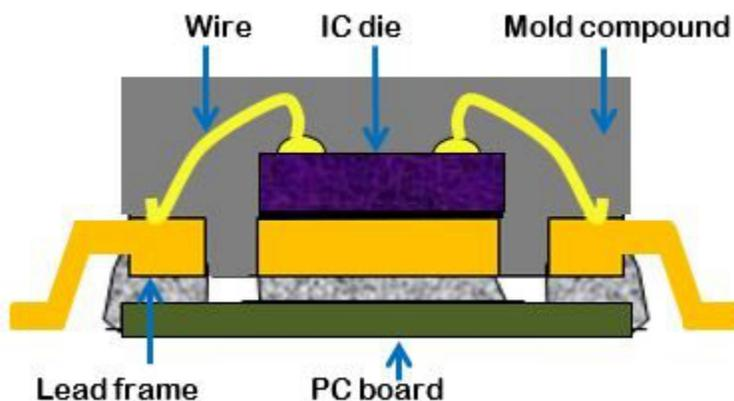

Figure 1. TSSOP Package Cross Section
Figure 1 is a cross-section of a TSSOP and the main building blocks in this type of package design. As you can see, the integrated circuit (IC) is mounted on a lead frame (mainly using some type of epoxy) with pins protruding through the plastic housing, enabling a connection of the IC to the printed circuit board (PCB). The die connects to the lead frame using gold, aluminum or copper wires. From this cross section, you can see that the connection between the IC and a certain point on the PCB consists of the IC die (with its corresponding parasitic components); the wire-bond connection between the IC and the lead frame; and finally, the leaded physical connection between the IC package and PCB. All of these components in the connection path contribute to a generally higher resistance path, as well as increased parasitic inductance. This package is popular because of ease of assembly, relatively low cost and good thermal performance.